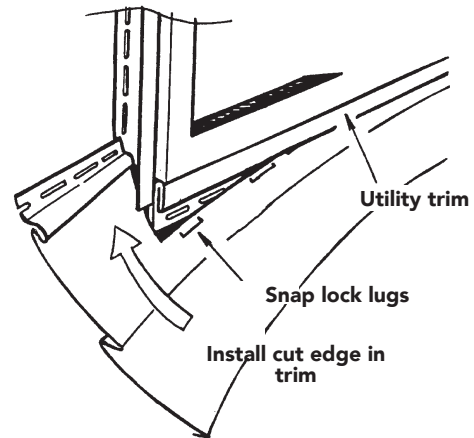

Figure 41
- Install the siding panel, making sure the lugs (from the snap lock punch) lock into the utility trim (Figure 41).